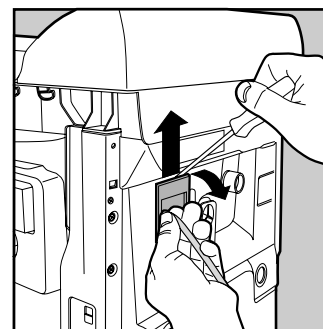

Fig. 4
4. Unscrew the 2 outer filter fastening screws and, with the help of a screwdriver (see fig. 4), release it from the back panel by pulling upwards.